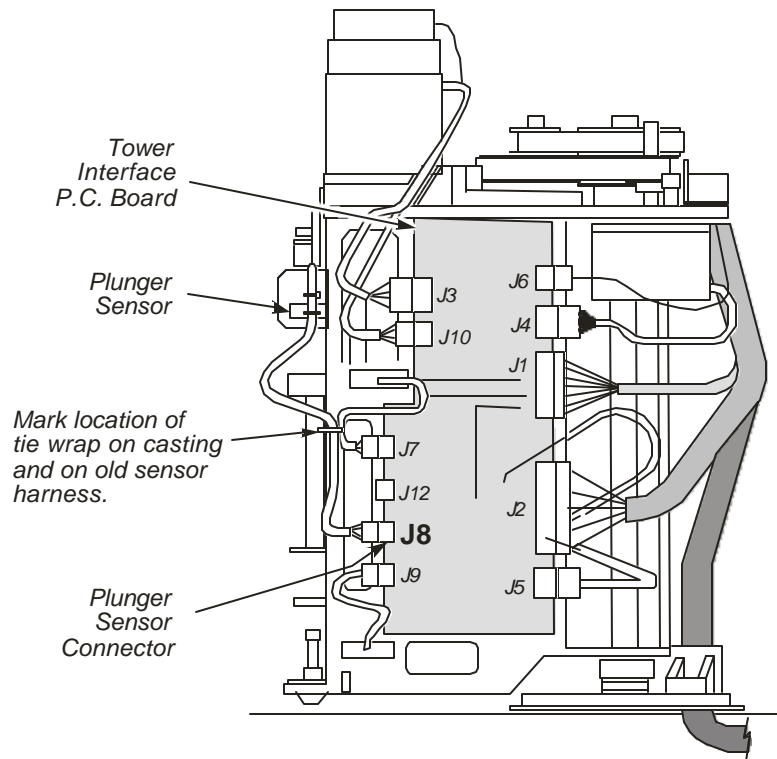

Figure 6- 17 Location of the Plunger Sensor and Plunger Sensory Conector
6. Make a 3/4-in. loop in the sensor wires at the back of the plunger sensor by threading the sensor connector between the two pairs of wires (see Figure 6- 18). Secure the loop with a tie-wrap. Make sure the loop goes through the channel in the back of the sensor.